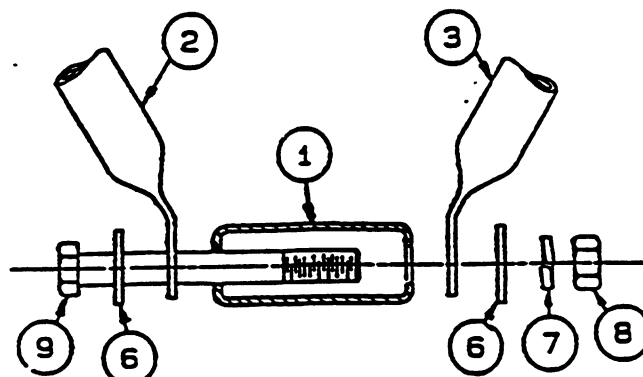

FIGURE 3.0-5
5. Saddle the feed support tube between the feed rods and assemble with 5/16-18 x 3.25" bolt, 2 flat washers, lock washer and nut. Reference Figure 3.0-5.